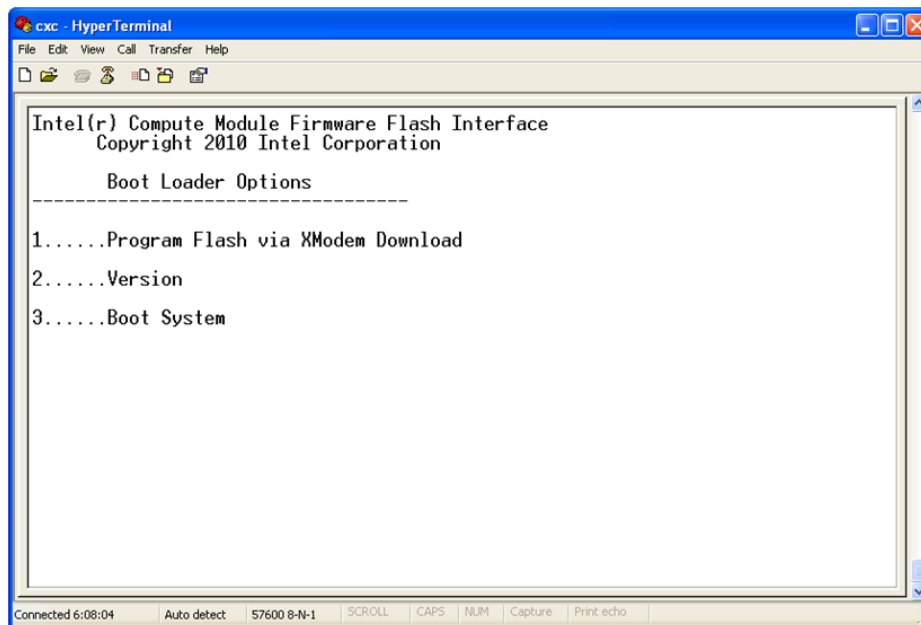

Figure 5 Boot Manager Interface Menu in HyperTerminal
6. Within 3 seconds press any key and you will see a dialog as shown in Figure 5.